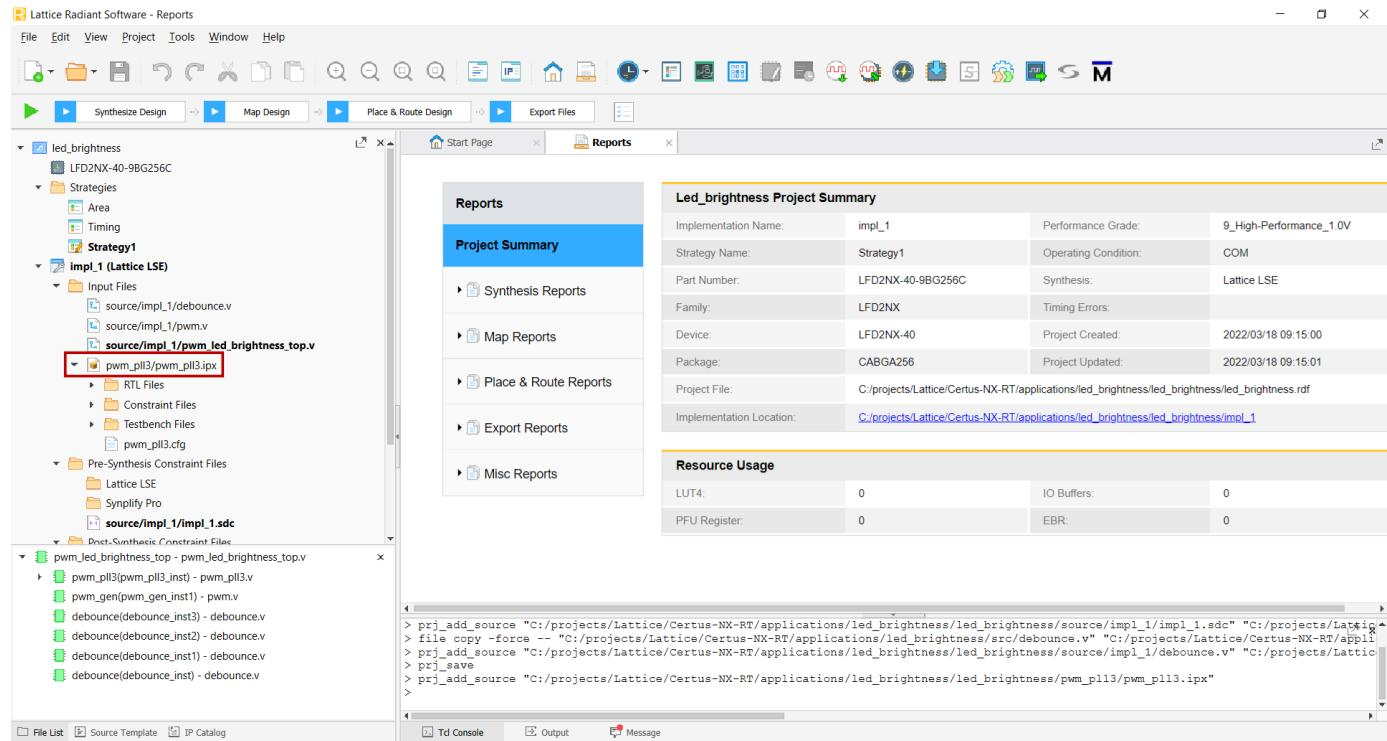

Figure 10: Looking at the Recently Added PLL IP
11. Once the **PLL** is created, it is added to the project files, see **Figure 10**.